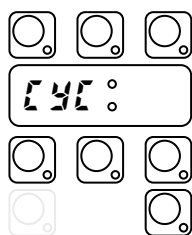
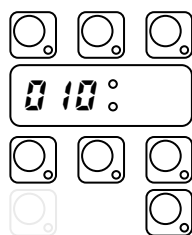

Fig. 4.4
Fig. 4.5
- Press CYCLE INFINITE key to confirm. The display shows the next parameter (Fig.4.4) and the corresponding value (Fig.4.5);